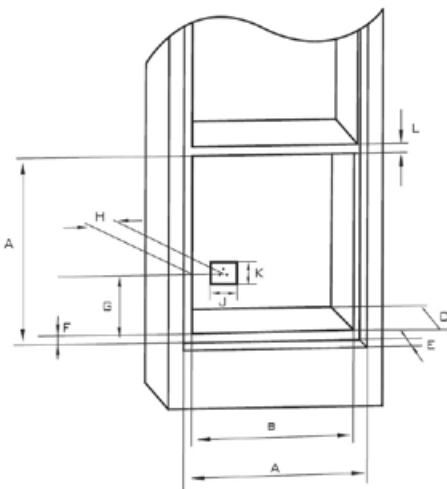

Fig. 8a
- The unit should be installed in standardised kitchen furniture designed for built-in appliances or in properly adapted furniture of dimensions according to Fig. 8a, 8b.
2. For the required built-in box dimensions see Fig. 8a, 8b. For the sake of efficient air circulation the unit has to be located according to the dimensions on the pictures and the design of the cabinet must enable air flow into its bottom part.